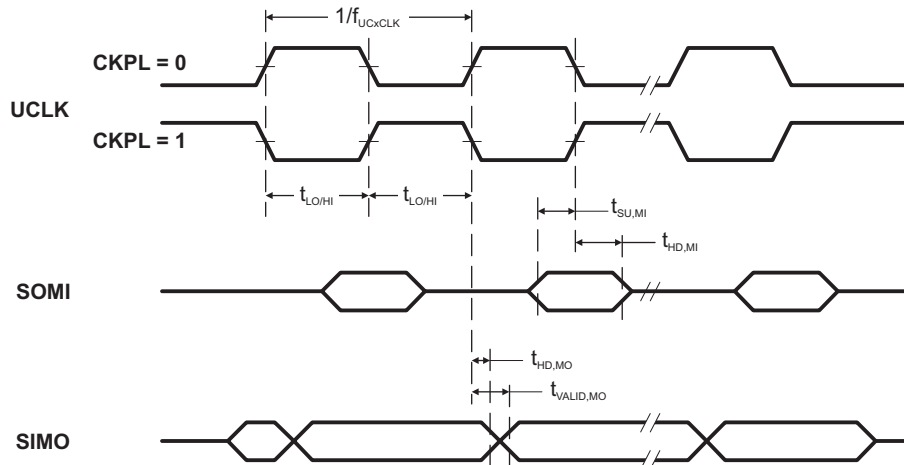
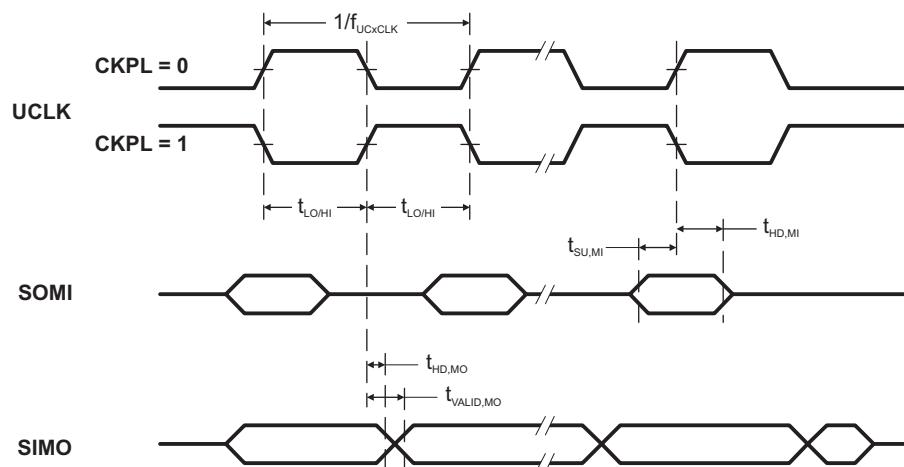

Figure 11. SPI Master Mode, CKPH = 0
Figure 12. SPI Master Mode, CKPH = 1
(see Note ⁽¹⁾, Figure 11 and Figure 12)
- (2) Specifies the time to drive the next valid data to the SIMO output after the output changing UCLK clock edge. See the timing diagrams in Figure 11 and Figure 12.
- (3) Specifies how long data on the SIMO output is valid after the output changing UCLK clock edge. Negative values indicate that the data on the SIMO output can become invalid before the output changing clock edge observed on UCLK. See the timing diagrams in Figure 11 and Figure 12.
- (2) Specifies the time to drive the next valid data to the SOMI output after the output changing UCLK clock edge. See the timing diagrams in Figure 11 and Figure 12.
- (3) Specifies how long data on the SOMI output is valid after the output changing UCLK clock edge. See the timing diagrams in Figure 11 and Figure 12.